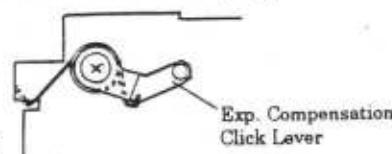

Fig.29
- As shown in Fig. 29, hook the SH Click Lever Spring (1AQ24110) to the cut portion of the Dial Base Plate and Ⓐ portion of the Exp. Compensation Click Lever Ass'y (1ASQ3000).